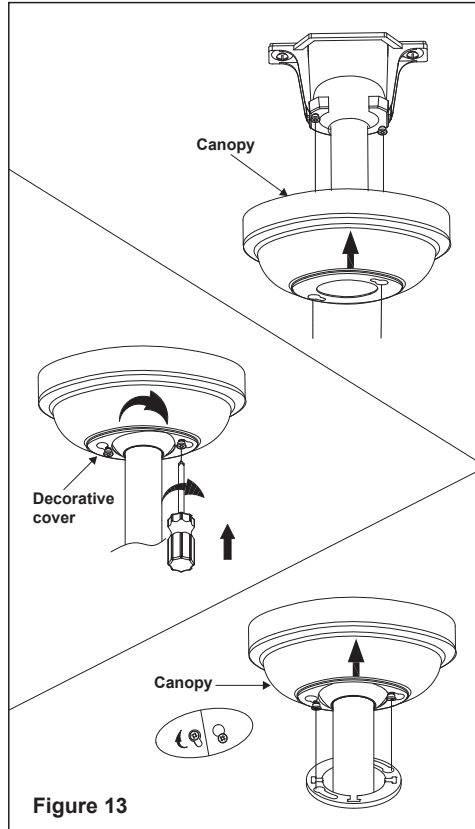

Figure 13
**Step 2.** Slide the canopy up to mounting bracket and place the key hole on the canopy over the screw on the mounting bracket, turn canopy until it locks in place at the narrow section of the key holes. (Fig. 13)